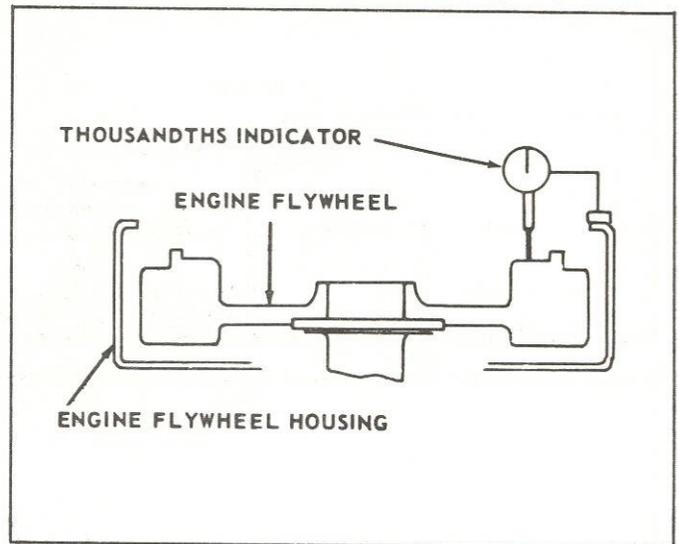

Figure 39. Checking the Isolator Surface of the Engine Flywheel.
D. Checking the Torsional Isolator Mounting Surface on the Flywheel. Bolt a dial indicator to the engine flywheel housing so the stem of the indicator contacts the mounting surface for the isolator, perpendicularly. The variation of face runout of isolator mounting surface should not exceed 0.0005 inch per inch of diameter of isolator (fig. 39).